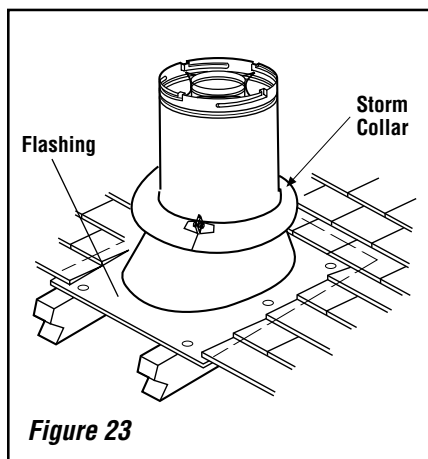

Figure 23
I. Install the roof flashing - Extend the vent sections through the roof structure. Install the roof flashing over the vent section and position such that the vent column rises vertically (use carpenter's level) (**Figure 23**). Nail along perimeter to secure flashing or adjust roofing to overlap the flashing edges at top and sides only and trim where necessary. Seal the top and both sides of the flashing with waterproof caulking.
J. Install the storm collar - Install the storm collar, supplied with the flashing, over the vent/flashing joint (see **Figure 23**). Loosen the storm collar screw. Slide collar down until it meets the top of the flashing. Tighten the adjusting screw. Apply non-combustible caulking or mastic around the circumference of the joint to provide a water tight seal.